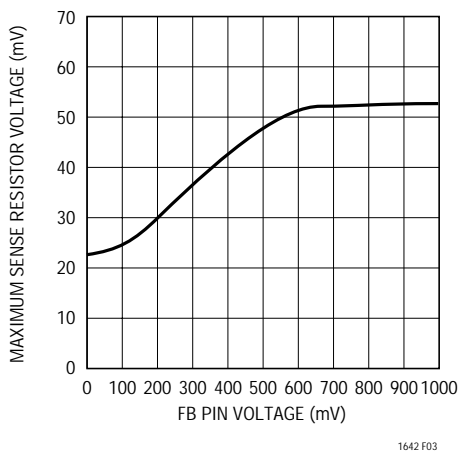

Figure 3. Maximum Sense Resistor Voltage vs FB Voltage
**SENSE (Pin 15):** Current Limit Set. To use the current limit place a sense resistor in the supply path between  $V_{CC}$  and SENSE. Should the drop across the resistor exceed a threshold voltage the GATE pin is adjusted to maintain a constant load current and the timer at the BRK TMR pin is started. To protect the external FET from thermal damage the circuit breaker trips after the BRK TMR timing cycle. A foldback feature makes the current limit decrease as the voltage at FB approaches ground. Figure 3 quantifies the relationship. To disable the current limit short SENSE to  $V_{CC}$ .
up; this “foldback” limiting tends to keep the power dissipation in the N-channel pass transistor constant. The output voltage is sensed at the FB pin. The limiting sense resistor voltage is 23mV when FB is grounded, but increases gradually to 53mV when FB exceeds 1V; Figure 3 shows the full dependence.